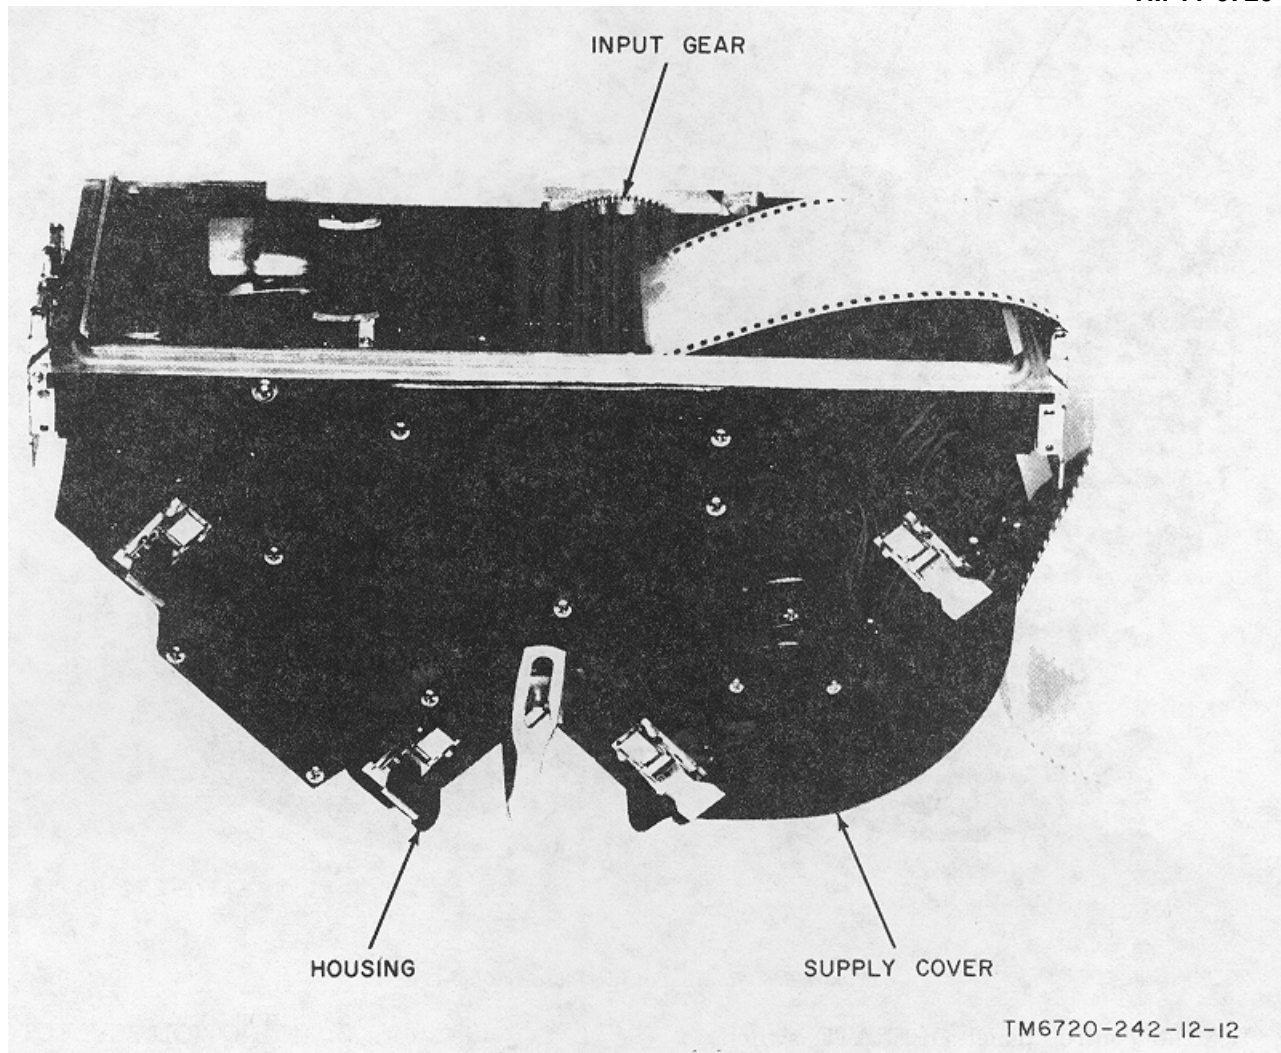

Figure 3-5. Ready to form loop, subdued light.
- a. Rest the magazine on the supply cover and housing (fig. 3-5).